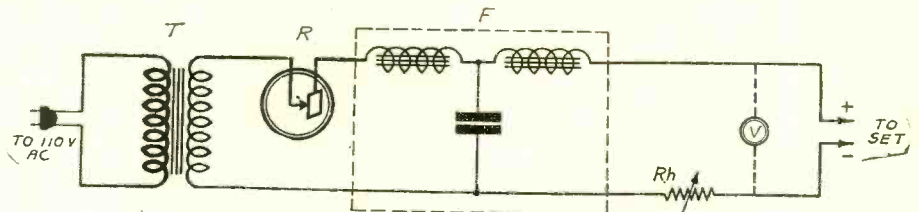

FIG. 704
(2) See Fig. 704 for a single wave rectifier. T and R may be an ordinary battery charger capable of supplying the necessary current. F is a filter which will handle the filament current which is to be drawn. The two inductance coils must have a large current carrying capacity and the condenser should be of the electrolytic type. Its capacity should be about 4,000 mfd.